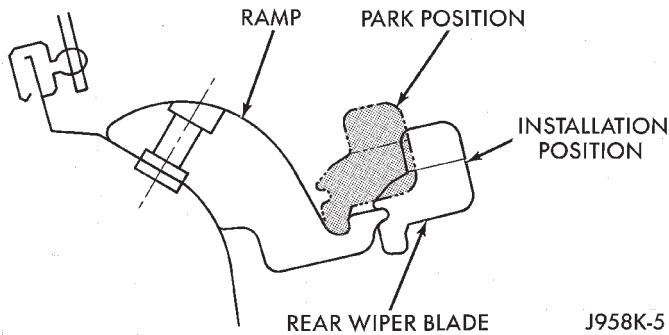

Fig. 9 Rear Wiper Arm Installation
(2) Remove the wiper arm from the motor output shaft using a rocking motion.
(3) Install the rear wiper arm with the wiper blade in the Park position. Place the rear wiper blade in the Installation position on the ramp (Fig. 9) and tighten the retaining nut to 18 N·m (160 in. lbs.).